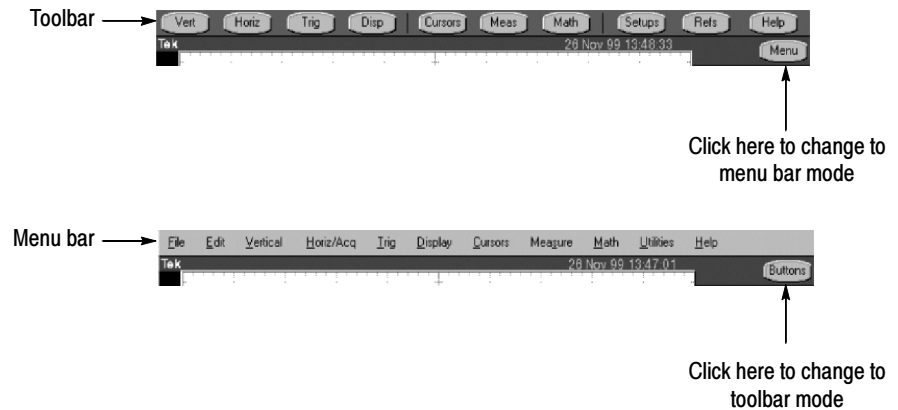

Figure 2-1: Toolbar and menu bar
- The term “toolbar” refers to a row of buttons at the top of the display. The term “menu bar” refers to a row of menus at the top of the display. You can switch between toolbar and menu bar operating modes by pushing the button near the top right corner of the display. See Figure 2-1.